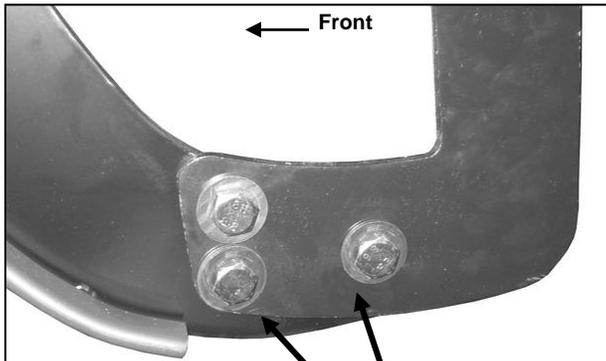

Fig 3
5. With assistance, position the Grille Guard up to the inside of the Mounting Brackets. **NOTE:** Depending on model year, Grille Guard may be bolted to the inside or outside of the Mounting Brackets. Attach the Grille Guard to the Mounting Brackets with the included (6) 12mm x 30mm Hex Bolts, (12) 12mm Flat Washers and (6) 12mm Nylon Lock nuts, **(Figure 3)**.